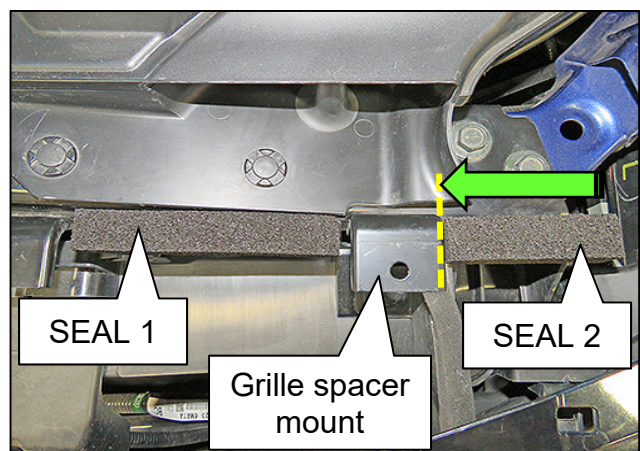

Figure 9
- it is up against the edge of grille spacer mount as shown in Figure 9.